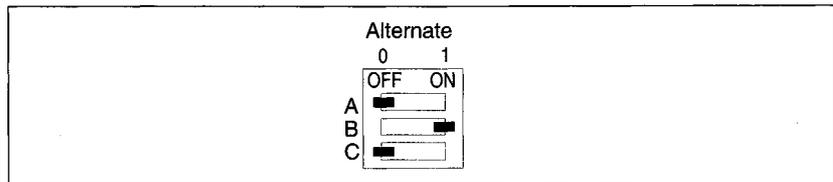

Figure 4-5. Alternate switch S1 selection.
- Alternate (refer to figure 4-5 page 21 and tables 4-5 to 4-7 page 21)